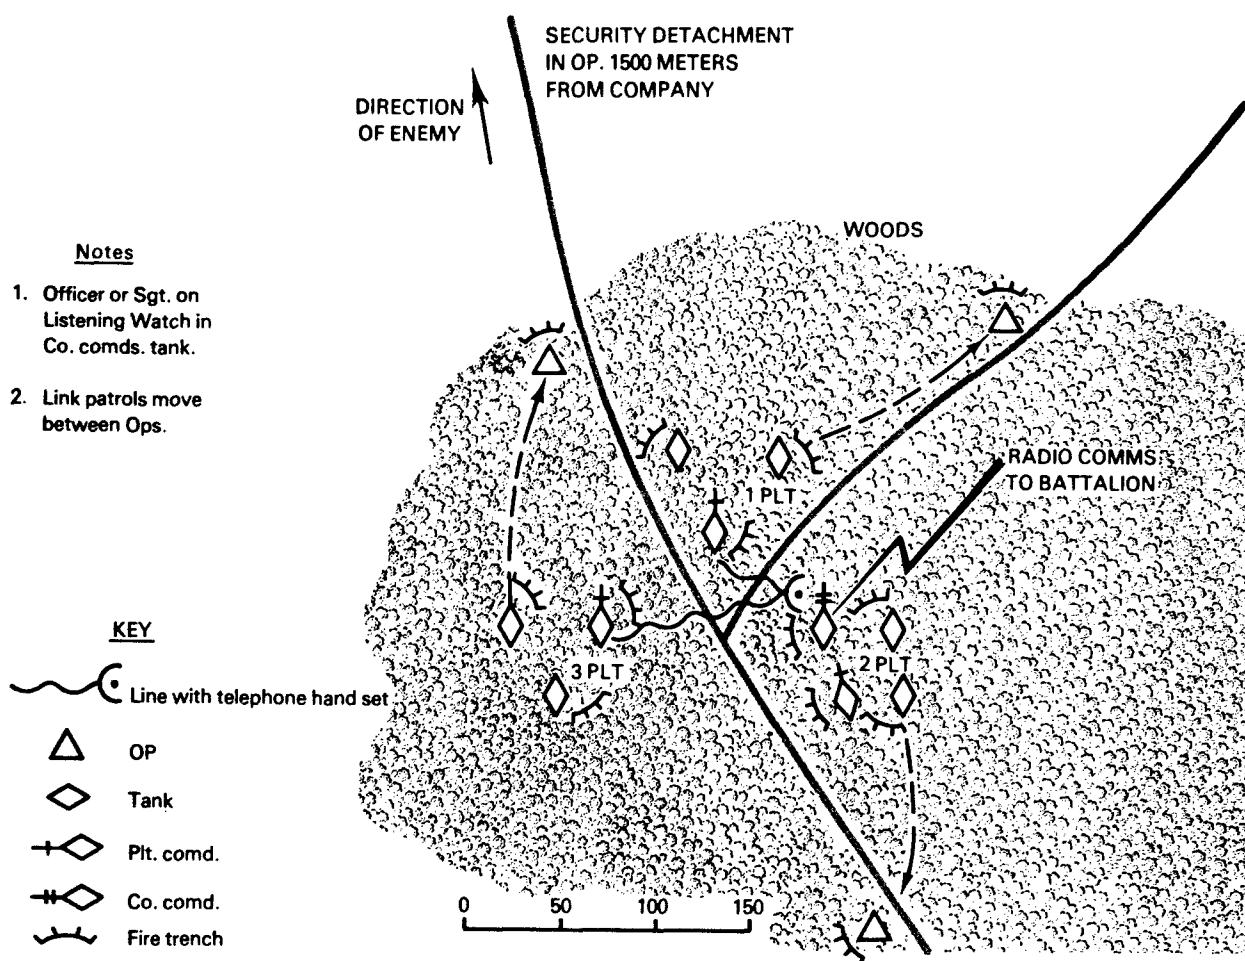

Figure 21. Company Security at the Halt.
b. Tank companies are met by subunit representatives and led into their designated areas. No halts on access roads to rest areas are permitted. Tanks are sited 30-50 meters apart. Sectors of fire for tanks and individual weapons are allotted, and foxholes dug by tank crews near their tanks. Vehicles are camouflaged as a priority task. If the position is to be occupied for any length of time, tanks are dug in and a telephone line is laid to the battalion command post. The company commander's tank is sited with the platoon in the center of the position. The platoons are 100-150 meters apart (see Figure 21).
6. LOCAL SECURITY. Local security is maintained by sentries and patrols detailed on a daily basis. In addition, platoons maintain observation posts (OPs). The OPs maintain antiair (AA), ground, and radio-watch. At night one man in each tank crew acts as sentry. A duty officer or sergeant mans the company commander's tank and remains in communication with the battalion headquarters, by radio and land line. A company OP is set up about 1500 meters from the company area in the most likely avenue of approach. A two-man patrol checks the individual sentries and OPs as detailed by the duty officer. Passwords and countersigns are changed daily.